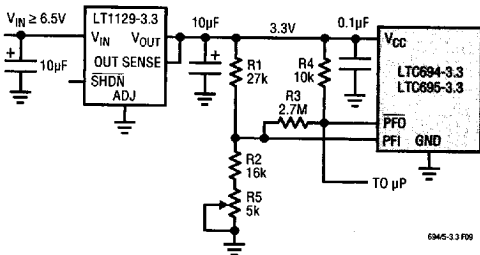

Figure 9. Monitoring Regulated DC Supply with the LTC694-3.3/LTC695-3.3's Power Fail Comparator
**Example 2:** The circuit in Figure 9 can be used to measure the regulated 3.3V supply to provide early warning of power failure. Because of variations in the PFI threshold, this circuit requires adjustment to ensure the PFI comparator trips before the reset threshold is reached. Adjust  $R_5$  such that the  $\overline{PFO}$  output goes low when the  $V_{CC}$  supply reaches the desired level (e.g., 3.1V).